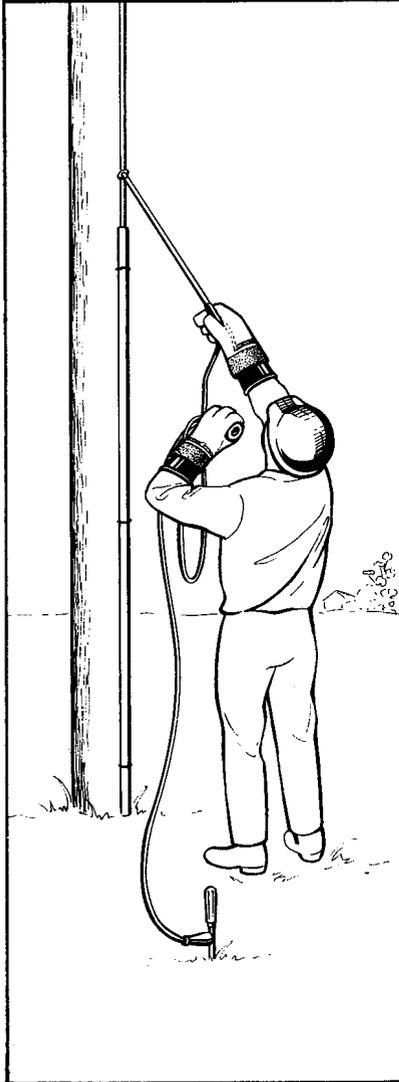

FIGURE 2.
(2) A fire hydrant, a projection on a manhole cover, or a metallic curb box.
(3) A 5-inch screwdriver blade pushed into the earth about 5 feet from the pole (Figure 2).
(4) A substantial metal object such as a piece of lead sleeving, a metal crossarm brace, or a half-pound bar of D seam solder, etc., and lay the object on the ground or pavement about 5 feet from the pole.